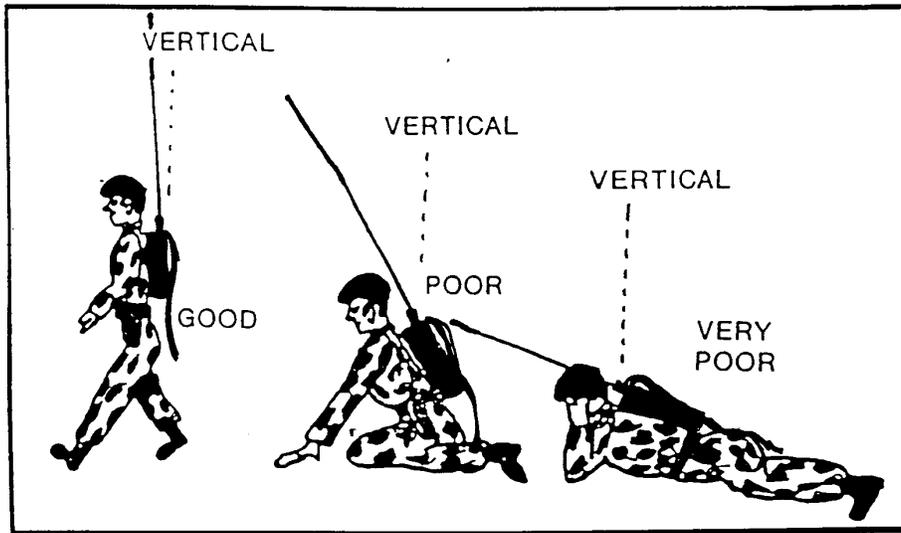
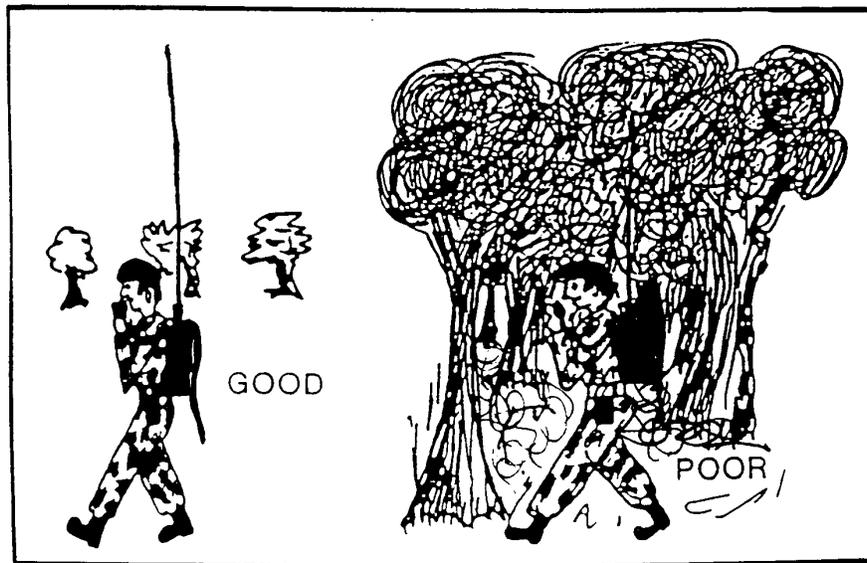

Figure 8 If Operating Ground Wave Best Results Should Be Obtained With the Whip (vertical) and Use of a Dangling Ground Plane Enhancement Tail
Figure 9 Where Possible Find a Clearing (no matter if ground wave or NVIS is being used)
Example, the 10-foot OE-505 man-pack antenna can be replaced by a vertical wire tied to a support such as a high tree branch under many conditions to improve antenna efficiency. Any good heavy wire conductor can be used including field telephone wire or the wire from the RF- 1 941 wire dipole antenna kit provided with the radios. The end of the vertical wire must be insulated from the support. The feed end of the wire antenna is connected to the radio via the wire adaptor provided with the radio. In order to further improve antenna efficiency and increase signal strength on the lower (surface wave) radiation angles, radios in man-pack operation should be given a "tail" wire connected to the radio ground post. The "tail" will provide a low resistance return path for antenna currents. "Tail" wires are not provided but can be locally fabricated from computer ribbon cable, communications wire, or ground strap braid. "Tails" should be as long as possible but not interfere with the carrying of the radio. The man-pack "tail" concept is shown in fig 8. Along with height orientation is also very important when operating in the man-pack configuration. The antenna must be kept as vertical as possible to produce the best surface wave signal and also to avoid losses due to cross polarization (see Fig 8). It is also important to operate from areas that do not have energy robbing obstructions such as trees and buildings when possible (see fig 9). When ever possible man-packed radios should be removed from the operators back and operated from the ground. This will reduce the capacitive coupling to ground effects of the operators body that reduces signal strength. In addition, when the man-pack radio (AN/PRC-150) is operated from the ground the ground stake kit should be connected to the radio ground terminal and driven into the earth. This kit is provided with every radio and is designed to provide a low resistance return path for ground currents. This dramatically improves signal strength and communications efficiency. Signal strength can be improved even more by connecting "radial" wires to the ground. Radials need to be constructed from insulated wire and connected on one end to the radio ground terminal. Ideally, radials should be $1/4$ wavelength long and secured to the earth on the ends by means of nails, stakes etc. Distribution of the radials should be symmetrical. In operational terms for the brigade, 4 wires (more if possible) of a practical length should be crossed in the center (X) and the center connected to radio ground. The wires should be spread by 90 degrees and secured (see fig 10). Using ground radials improves vertical antenna performance (gain) by allowing more current to flow in the antenna circuit and by lowering the takeoff angle of the antenna pattern. This produces an increase in ground-wave signal strength on the low angles where it is the most useful for tactical communications (see fig I 1). For vehicular operation both fixed and on the move the 32-foot AT-101 1 antenna is provided. Under operational conditions it will not always be possible to use all 32 feet of this antenna and keep it in the vertical position for best ground wave performance. The antenna should always be kept as vertical as possible and as long as possible under the operational circumstances. The radiation pattern for a vehicular mounted vertical whip is essentially omni-directional however the mass of the prime mover under the antenna will distort the antenna pattern in the direction of the vehicle mass and provide signal gain in that direction. This can be exploited by pointing the mass of the vehicle in the direction of the weakest station in a net or in the direction of the highest priority station in a net to improve system operations (see fig 12).